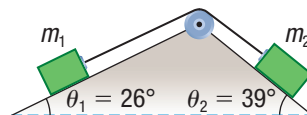

Figure 8
8. Two masses, connected by a massless string, hang over a pulley that connects two inclines (**Figure 8**). Mass m_1 is 8.0 kg, and mass m_2 is 12 kg. The coefficient of kinetic friction for both inclines is 0.21. Determine the acceleration of the two masses. **T/I**